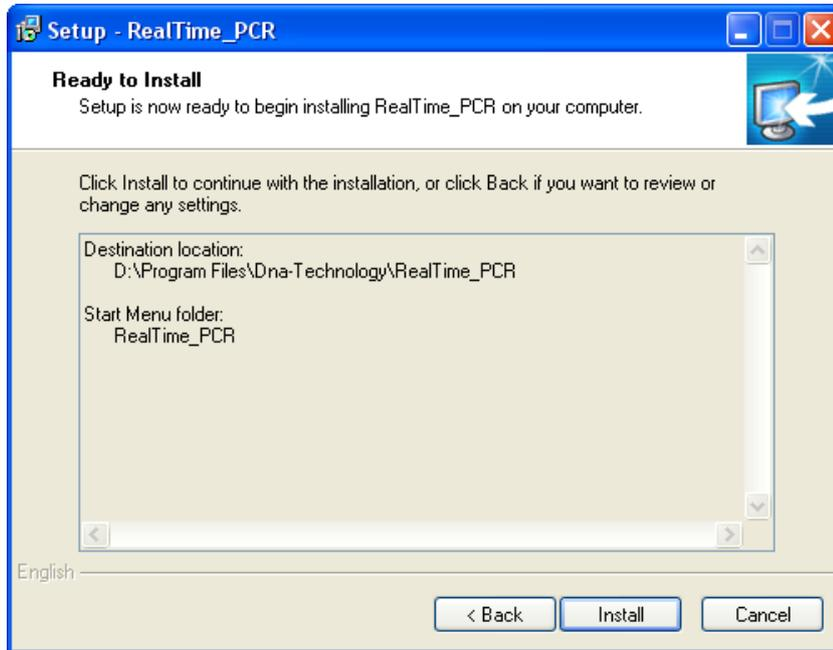

Fig.17 Confirmation window
- Confirmation window will appear, informing that software is ready for setup (Fig.17). Check the chosen options and click .